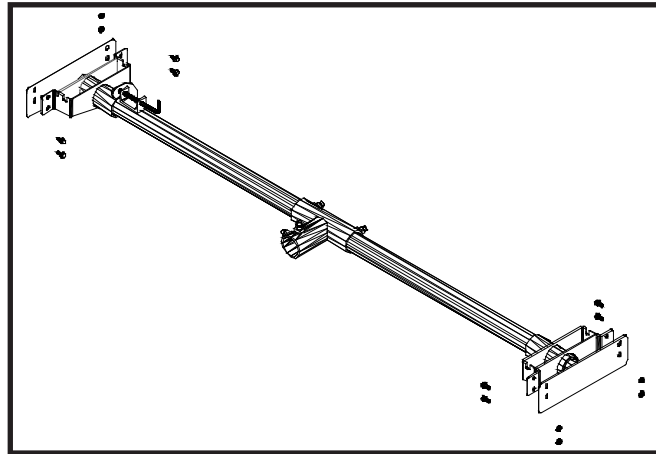

Figure 2
- Next slide one tank mount bracket onto each end of the support cross pipe and proceed to fasten the tank mounting brackets with the provided backing plates using 3/8" x 1-1/2" hex bolts and 3/8" nuts. (Figure 2)